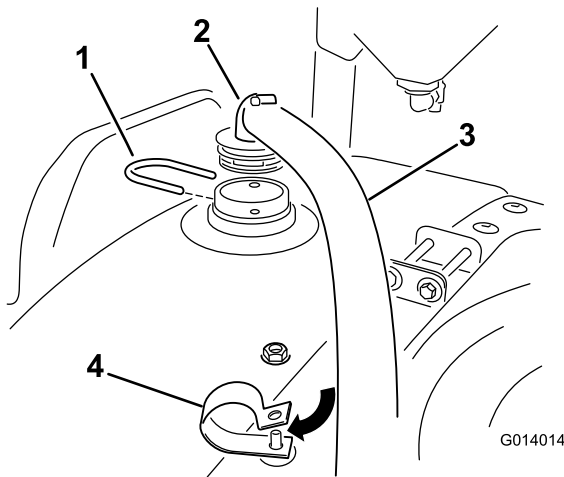

Figure 23
1. Install the hose end with the 90 degree fitting to the bulkhead previously installed at the top, front of the tank (Figure 23).
2. Use a fork to secure it to the tank as shown Figure 23.
the bolt in the R-clamp and finger tighten at this time (Figure 23). This will allow for later adjustment.